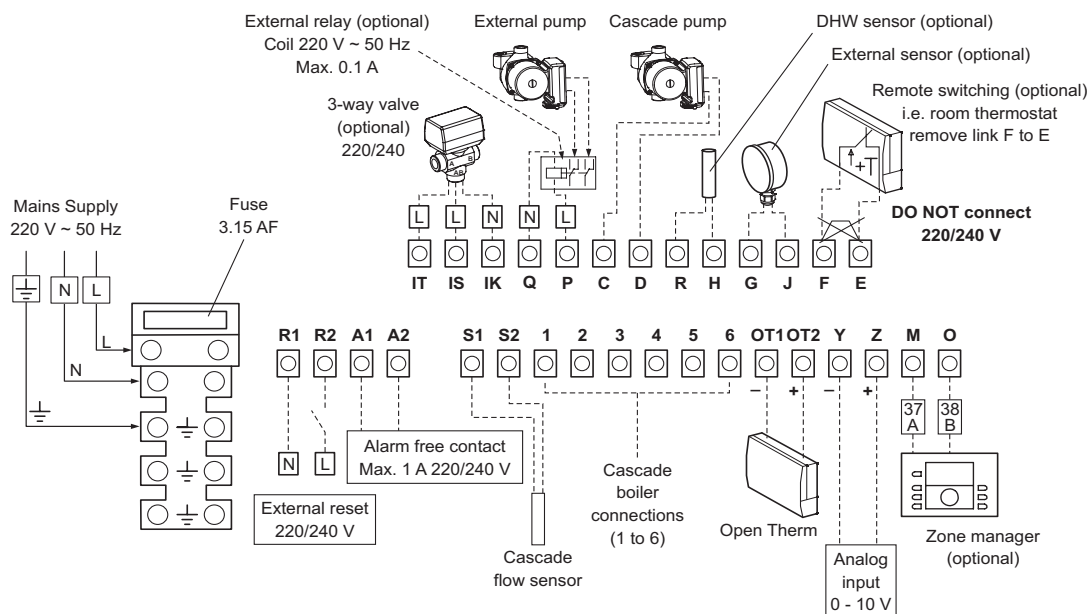

Fig. 4.11
4.7 CONNECT THE MAINS SUPPLY AND EXTERNAL CONTROLS - Fig. 4.11
- If any external control, i.e. room thermostat etc. is to be fitted, refer to Fig. 4.11.**